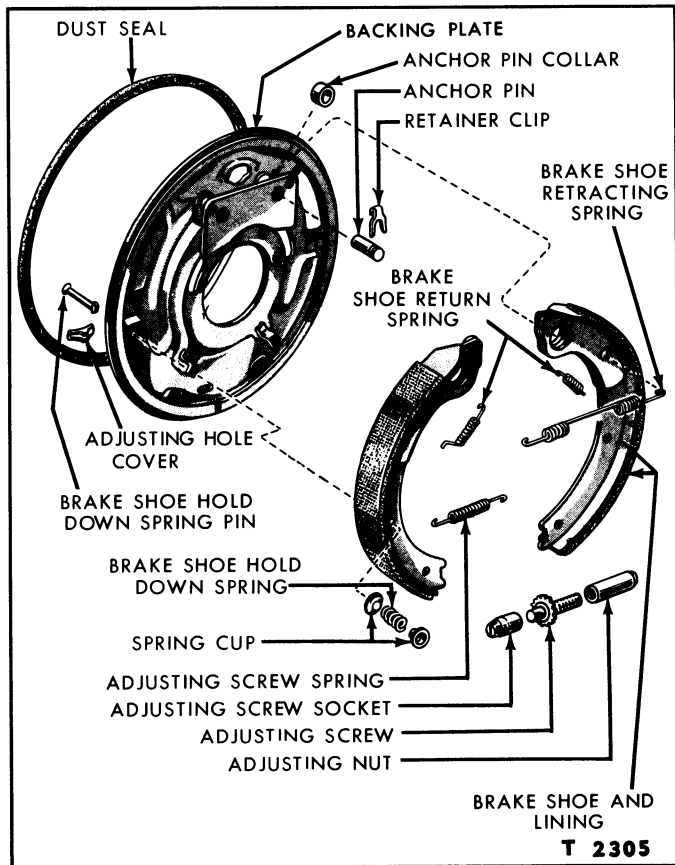

Figure 7—Brake Shoes and Related Parts
the retracting spring from the brake shoes, Figure 7.
2. Connect the adjusting screw spring, Figure 7, to each shoe, then install the adjusting screw assembly. Position an anchor pin collar in each shoe.
3. Position the brake shoes on the backing plate and install the brake shoe hold down spring pin, spring and two cups on each shoe as shown in Figure 7.